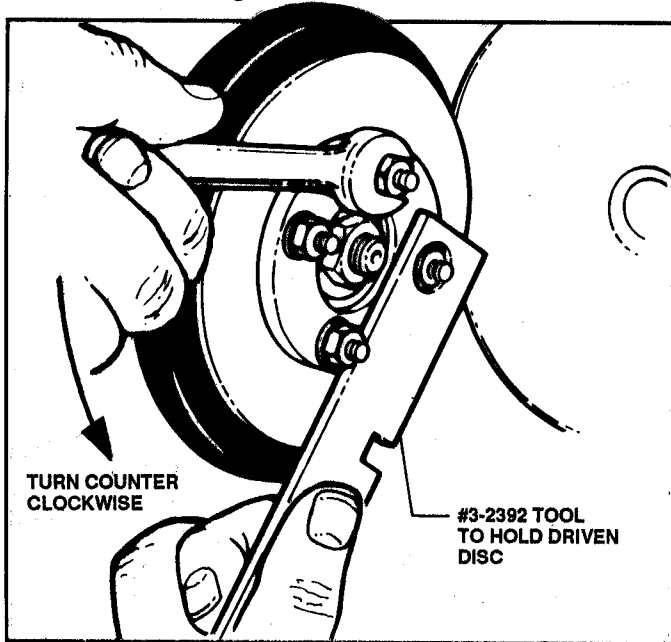

FIGURE 4.14
- A. Use a 1/2" socket wrench to remove the four retaining hex flange lock nuts. Turn nuts counterclockwise to remove. Use #3-2392 SPECIAL SMOOTH CLUTCH TOOL to hold the Driven Disc to prevent its turning while removing or installing retaining nuts. See Figure 4.14.